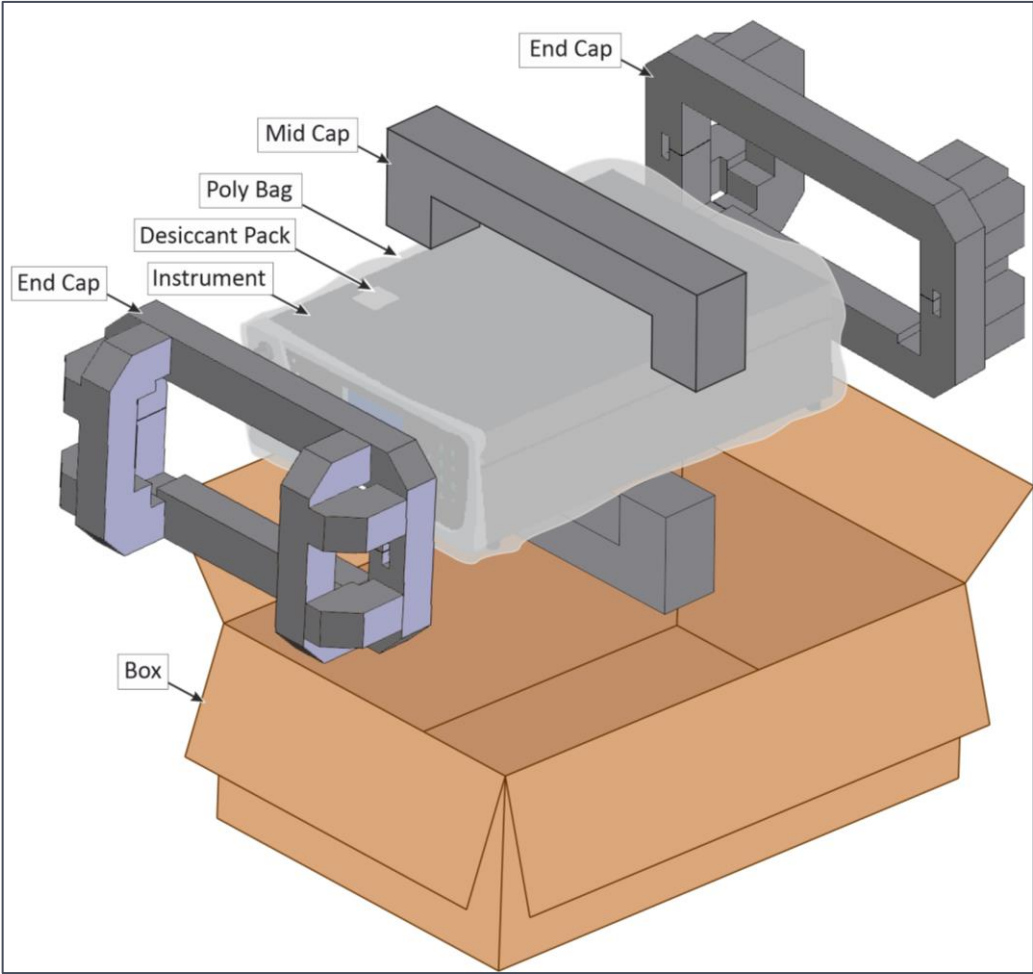

Figure 27 – Packing Instruction
8. Place the instrument back into the original foam and box it was delivered in. If this is no longer available find some equivalent packaging which provides protection from damage (refer to Figure 27).